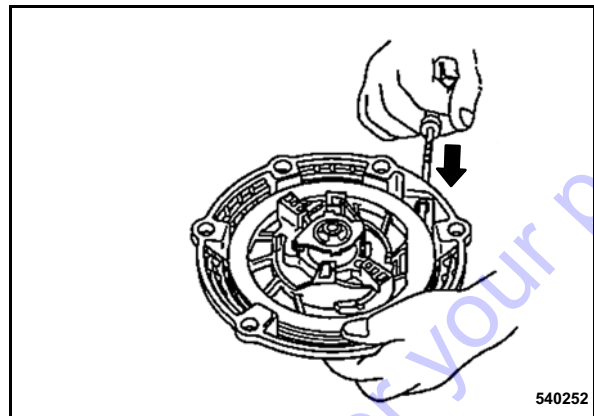

Fig. 72
- Remove the coil fixture and guide the starter handle slowly back to initial position (Fig. 72).